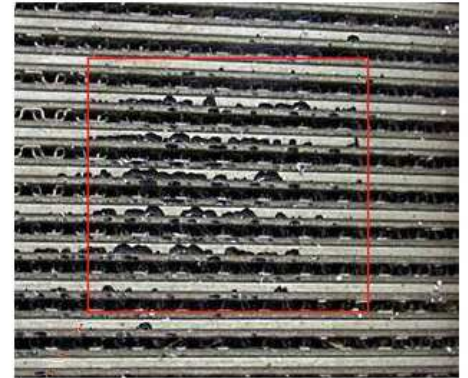

Figure 4
- Overheating of the coolant through faulty handling (full deceleration of the vehicle at low engine speeds, choice of the wrong transmission gear) and the ensuing cavitation (forming of bubbles in the coolant due to high thermal loads) Figure 4